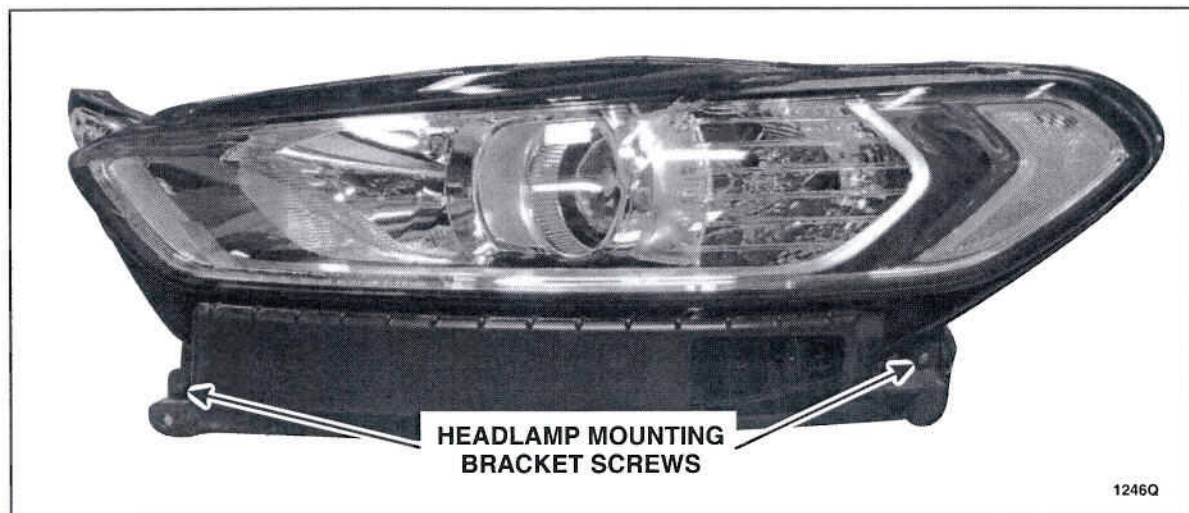

FIGURE 13
15. Remove the two screws attaching the old headlamp assemblies to the mounting brackets and remove the brackets. See Figure 13.